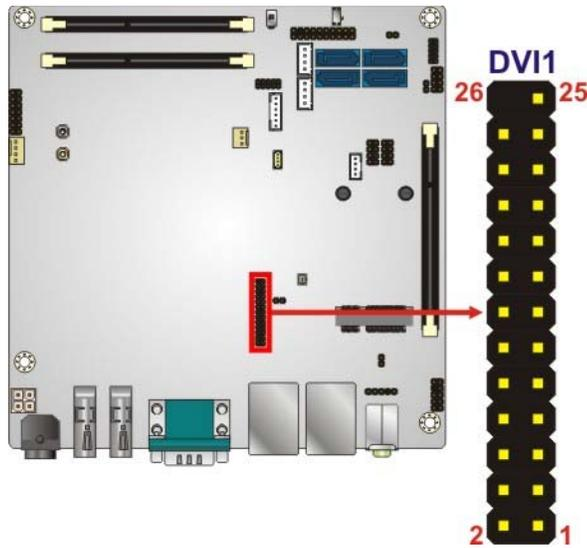

Figure 3-9: DVI-I Connector Location
- CN Location:** See **Figure 3-9**